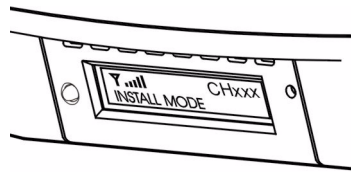

Figure 3.6: Displayed signal strength
10. It is recommended that various outside roof and exterior wall locations, and locations within the building be tested to identify the best DU location. The LCD display on the DU will help you identify the location where the signal strength is strongest. The LCD display on the CU indicates the signal strength that the DU is receiving. Figure 3.6: shows 5 bars of signal strength. Five bars is maximum.